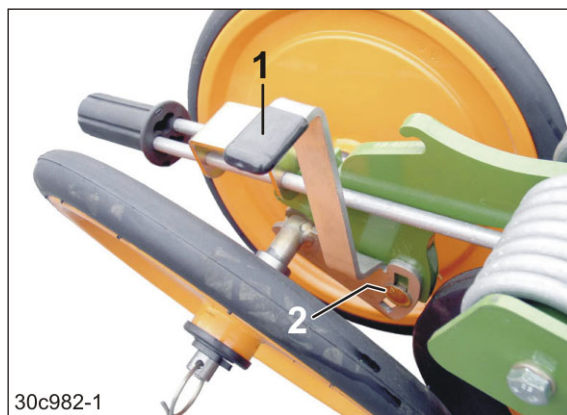

Fig. 170
4. Rotate the axle by moving the lever (Fig. 170/1).
5. Secure the lever position with the screw (Fig. 170/2).